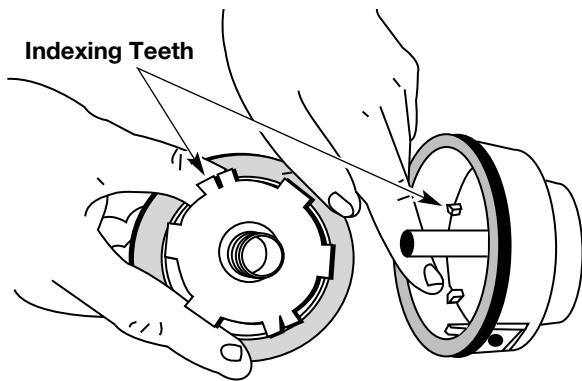

Fig. 24
5. Check the indexing teeth on the inner reel and outer spool for wear (Fig. 24). If necessary, remove burrs or replace the reel and spool.